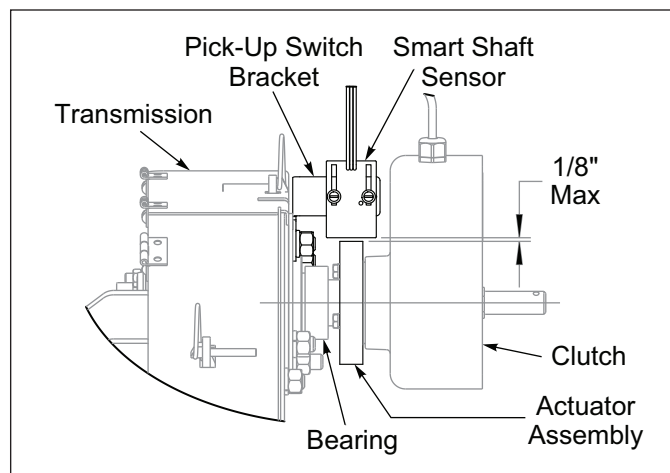
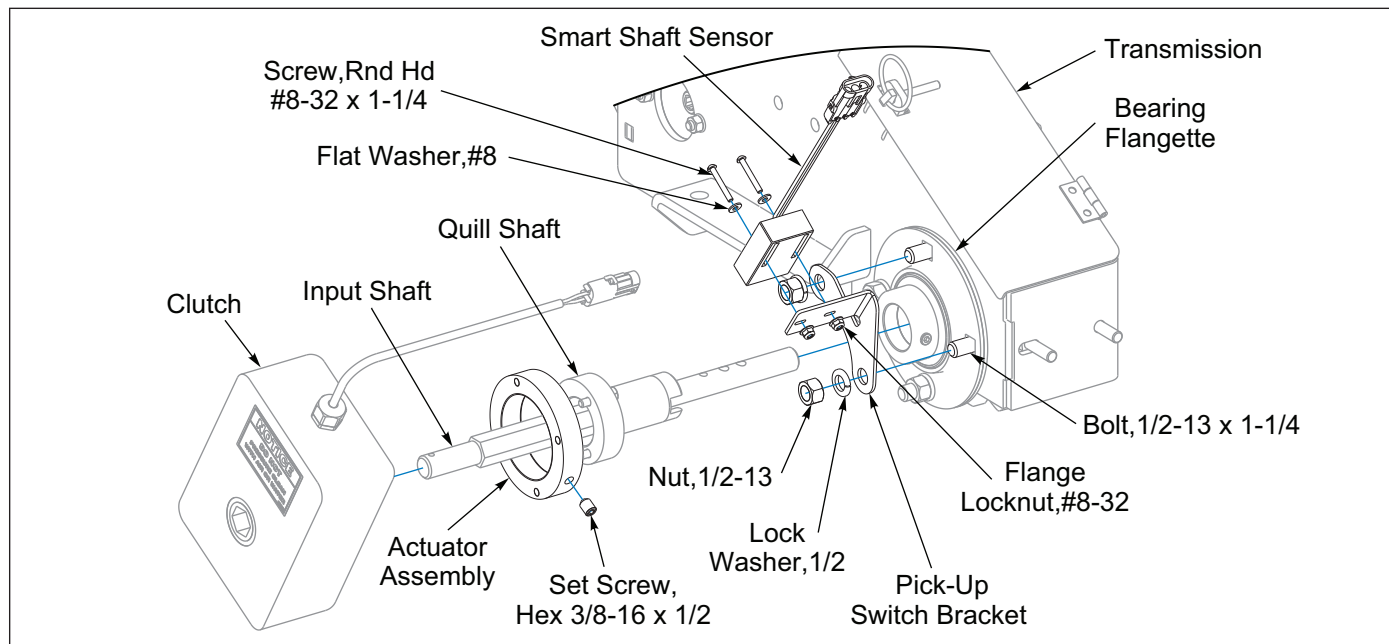

Figure 2-30: Ground Speed Sensor Detail
Figure 2-34: Brillion Elite Mini Monitor - Ground Speed Sensor
2. Remove Seeder Clutch. Install Actuator Assembly onto the Quill Shaft outer diameter, securing with Actuator Assembly Set Screw. Reinstall Clutch. See **Figure 2-34**. Install Pick-up Switch Bracket to the Transmission Input Shaft Bearing Flangette Hardware. Assemble Smart Shaft Sensor onto the Pick-Up Switch Bracket with sensor provided hardware and #8-32 Flange Locknuts. Adjust the Smart Shaft Sensor so that it is 1/8" Max away from the Actuator Assembly. See **Figure 2-30**. Connect Ground Speed Smart Shaft Sensor to the Center Seeder Harness.